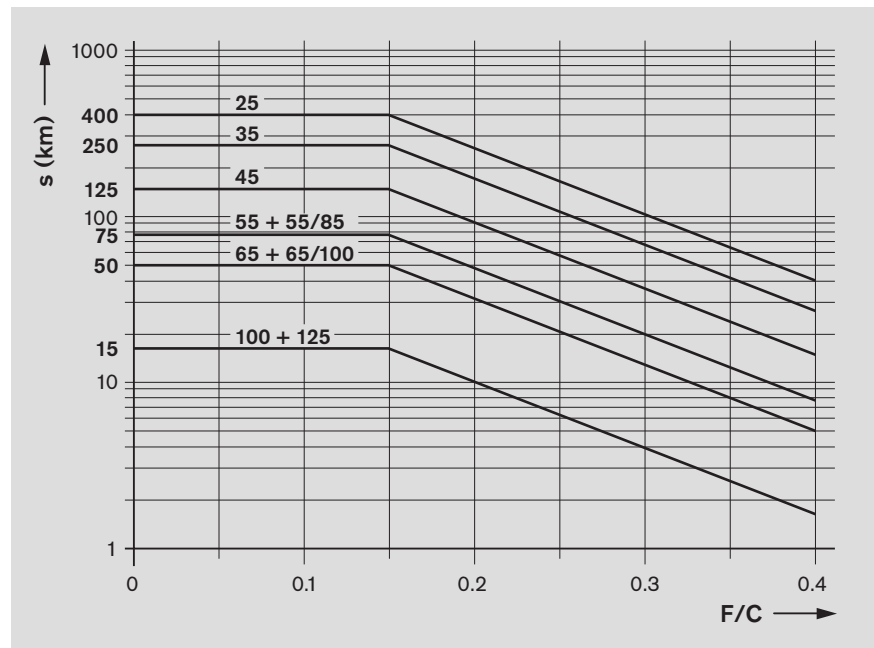

Fig. 15
- Apply the minimum quantity according to Table 12 to the lube port until the relubrication interval as specified (in Fig. 15) has been reached.
The lubricant cycle time can then be obtained by dividing the relubrication interval (according to Fig. 15) by the calculated pulse count.
- Apply the minimum quantity according to Table 13 per lube port until the relubrication interval as specified (in Fig. 15) has been reached. Calculate the required pulse count and lubricant cycle time in the same way as for relubrication (normal stroke).